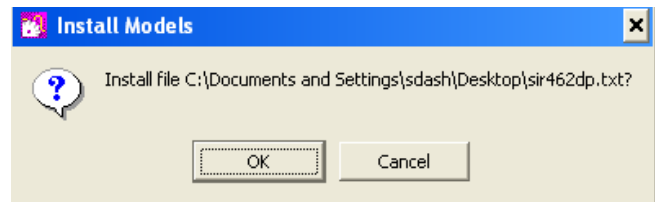
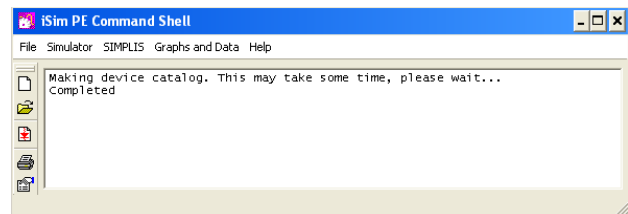

FIGURE 6. INSTALL MODELS
FIGURE 7. MESSAGE SHOWING MODEL INSTALLATION IS COMPLETED
3. A message box will pop-up asking if you want to install the file as shown in Figure 6. Click **OK**. You will see a confirmation on the iSim: PE Command Shell as shown in Figure 7.